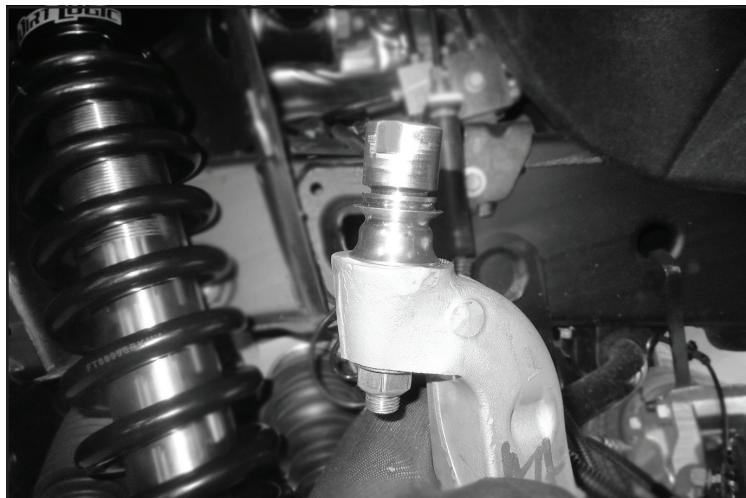

FIGURE 5 - STEP 9
9. Install FT90153 (Lower misalignment) onto FT94535 (Uniball Pin). Then, install into the factory knuckle using the supplied 9/16-18 (Fine thread nut) and washer. Torque the nut to 135 ft-lbs. **SEE FIGURE 5**